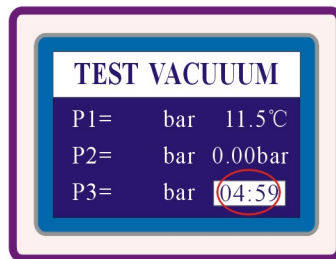

Fig.6.4-28
(2) after press “START/STOP” button, the vacuum pump start vacuuming, LCD appear 5 minutes countdown. if the pressure in chamber reach -0.85bar(P1) in advance, go to the next step in advance. (Fig.6.4-28)